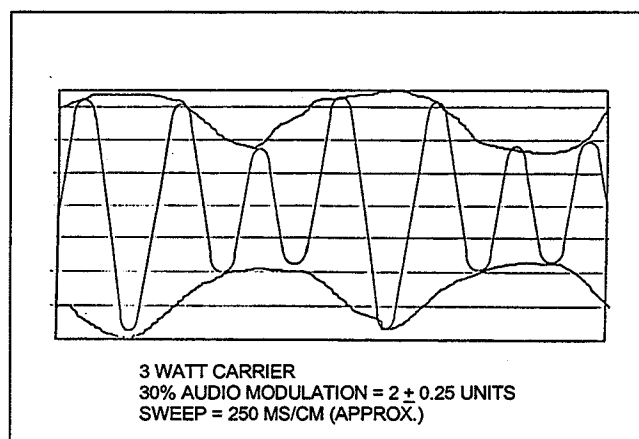

Figure 3-15. Typical carrier output with 30-percent modulation.
6. With the audio signal applied, adjust R63 on the 67 Voice card for the approximate waveform as shown in Figure 3-15.